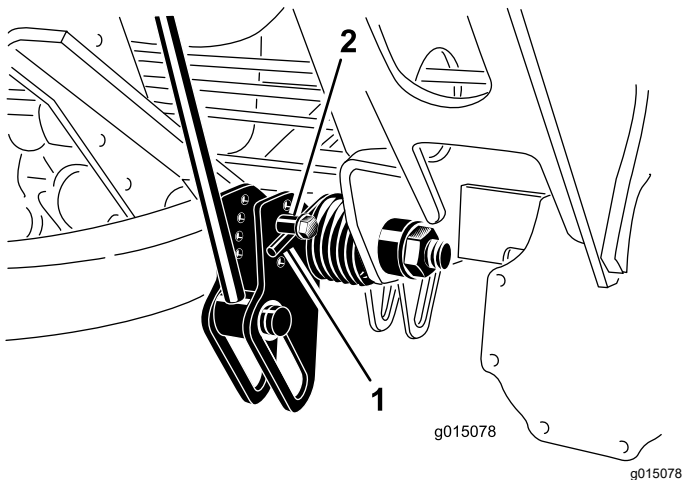

Figure 72
2. Insert a tube or similar object onto the long spring end to relieve the spring tension during the adjustment (Figure 72).
3. While relieving the spring tension, remove the bolt and locknut securing the spring actuator to the bracket (Figure 72).